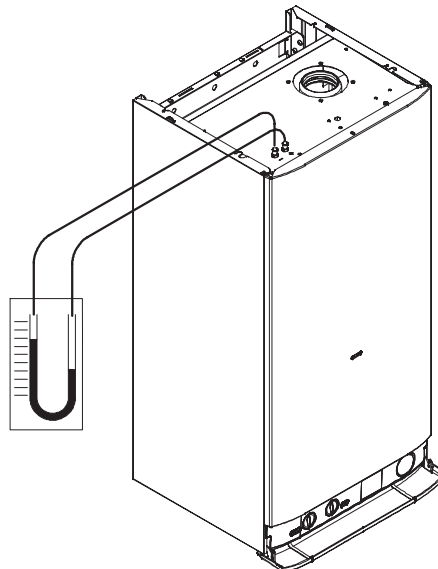

Figure 14.3
- 1 Remove the caps of the pressure test points located on the top of the boiler and connect a differential pressure gauge (Figure 14.3).